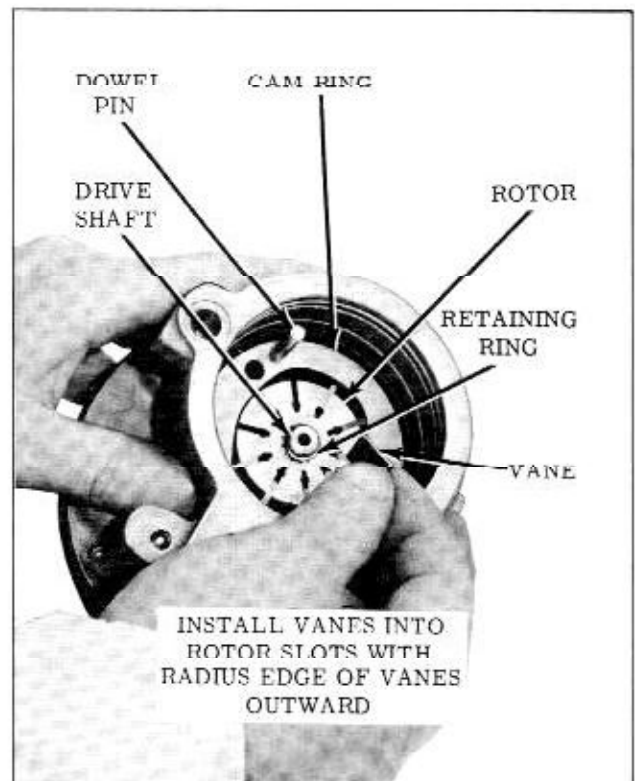

Fig. 4-62 Installing Vanes
6. Install vanes in rotor slots with radius edge towards outside as shown in Fig. 4-62.